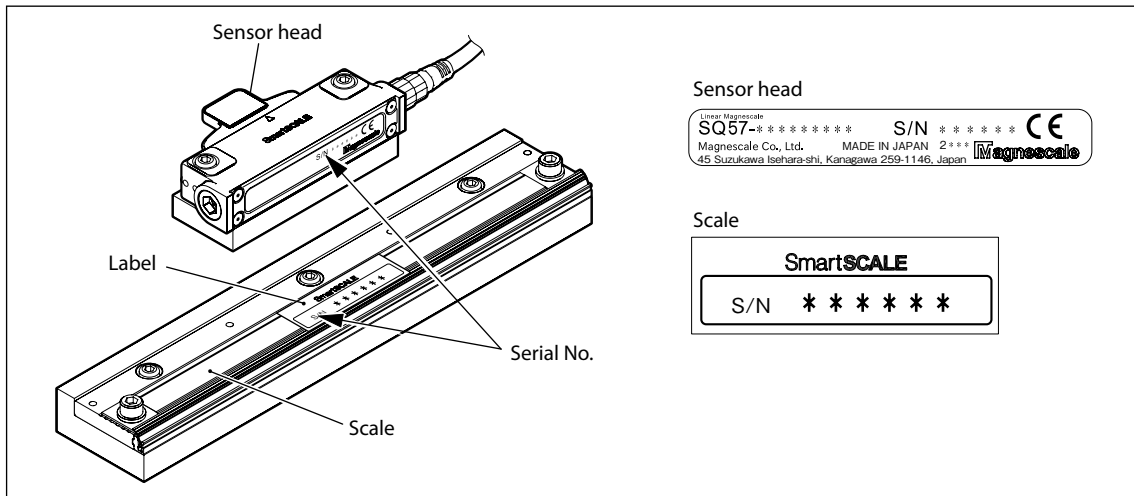

Fig. 3-6
2. Check the label attached to the scale to make sure that the serial No. matches that of the sensor head. (See Fig. 3-6.)